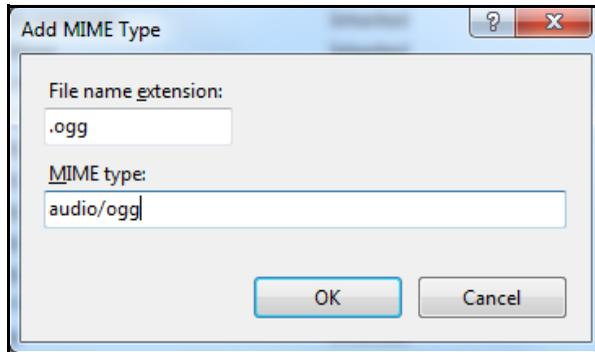

FIGURE 2-15 Add MIME Type ogg
Step 3 In the **Add MIME Type** dialog box, type **.ogg** for the **File name extension** and type **audio/ogg** for **MIME type**, as shown in Figure 2-15.